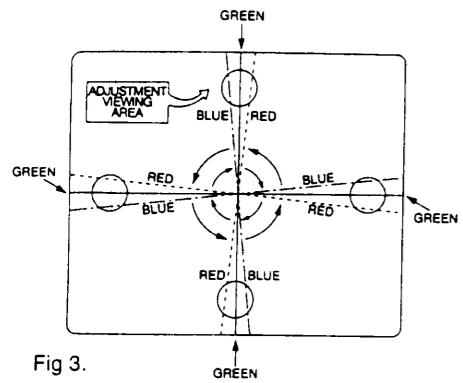

Fig. 3.
- 12: While watching the 6 o'clock positions on the screen, rock the front of the yoke in a vertical (up/down) direction to converge the red and blue vertical lines (fig. 3). Temporarily place a rubber wedge at the 12 o'clock position to hold the vertical position of the yoke.